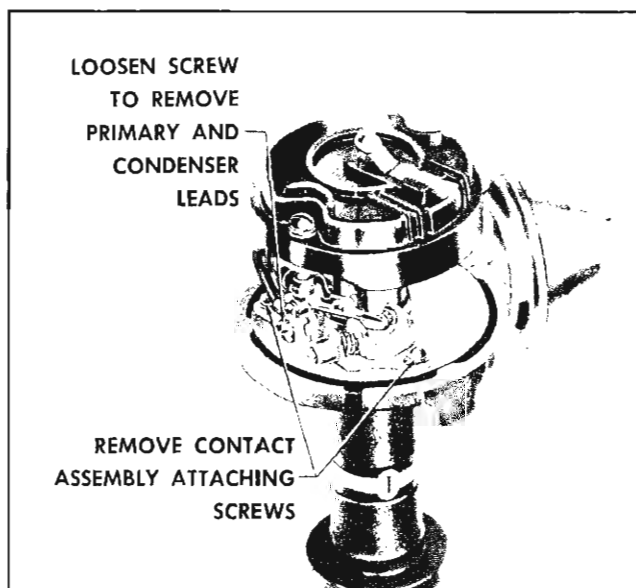

Fig. 11-42 Distributor Contact Details
1. Remove two attaching screws (Fig. 11-42) which hold base of contact set assembly in place.
2. Remove condenser lead and primary lead from nylon insulated connection by turning screw (Fig. 11-42) in contact set.